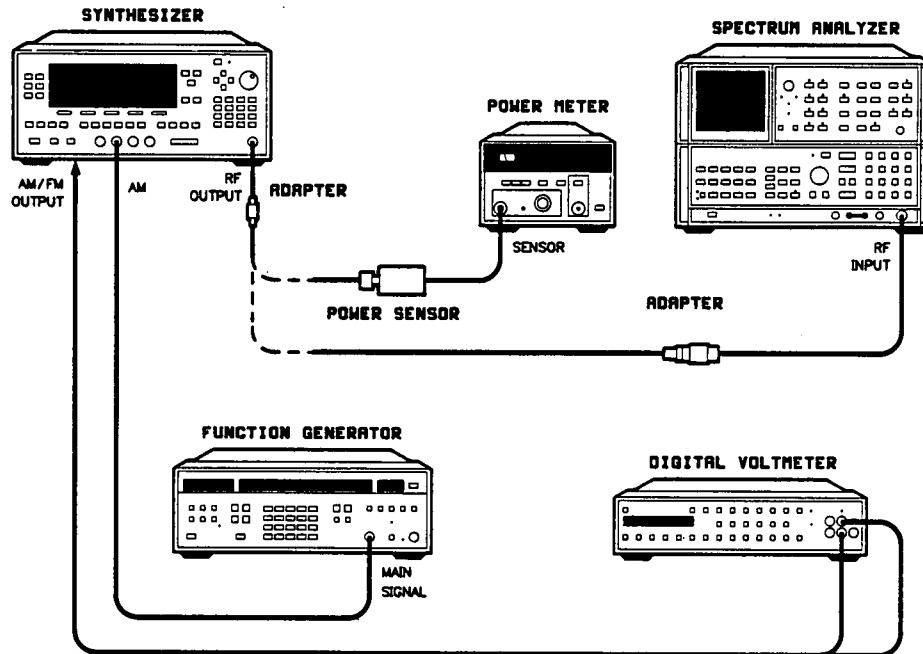

Figure 2-24. AM Dynamic Range Test Setup
1. Preset the instruments shown in figure 2-24 and let them warm up for at least one hour.
4. Connect the equipment as shown in figure 2-24 with the power sensor connected to the synthesizer's RF OUTPUT.
20. Disconnect the power sensor from the synthesizer and connect the spectrum analyzer as shown in figure 2-24.